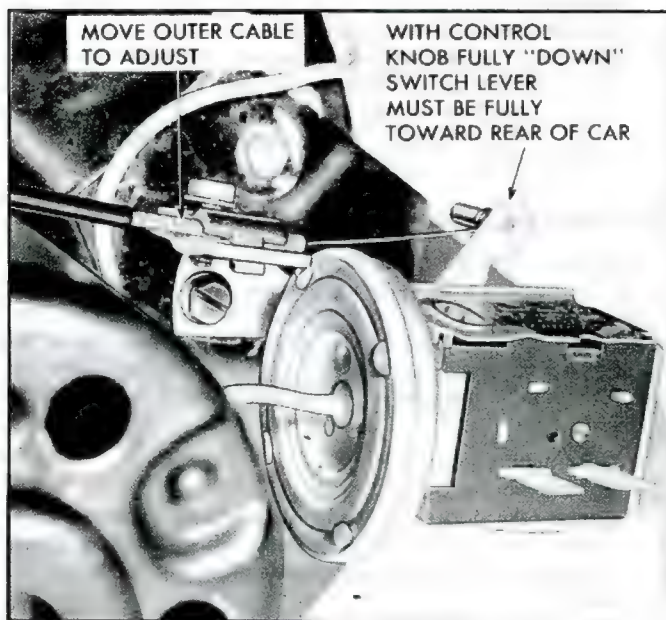

Fig. 17—Thermostatic Switch Cable Adjustment
1. Before attempting to adjust the thermostatic switch, check to be sure that the adjustment lever on the switch is in maximum COLD position (moved fully toward the rear of the car) when the COLD control knob on the control panel is pushed fully down. Re-adjust the bowden cable, if necessary (fig. 17). Then, if system still fails the performance test, proceed as follows: